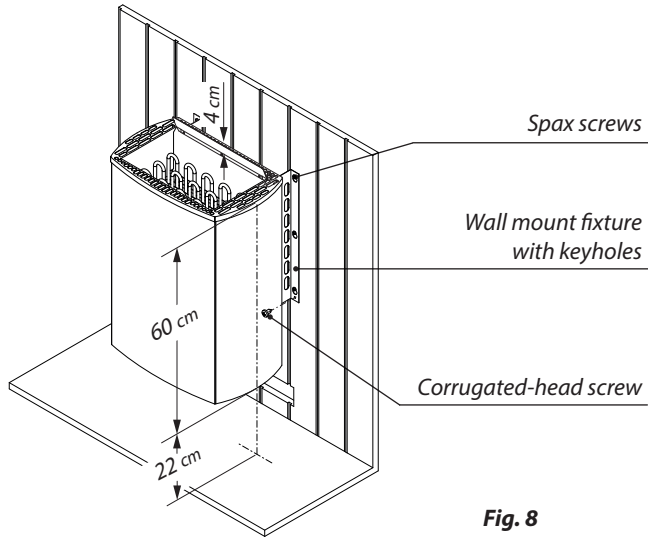

Fig. 8
- Now you can hook the keyholes of the sauna heater onto the spax screws that are screwed into the cabin wall and then secure on the wall fixtures with the two locking screws. (Fig. 8).